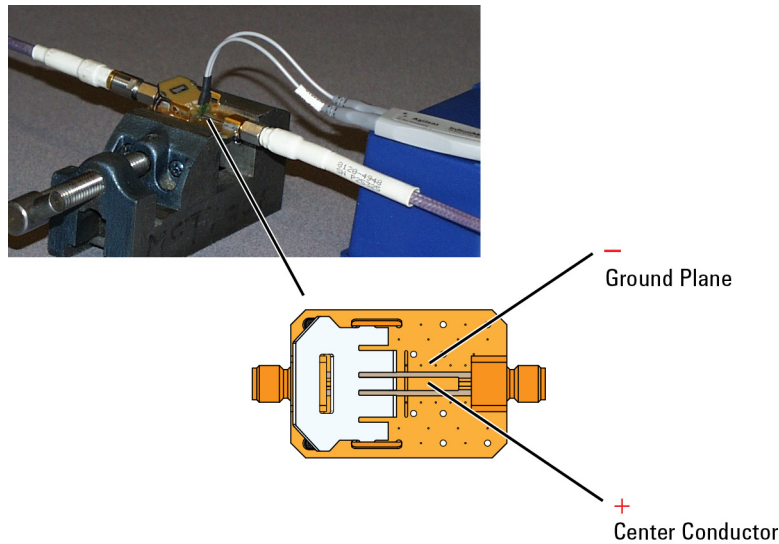

Figure 216 Probing Locations on PV Fixture
- 31 Position the probe conveniently to make quality connections on the PV/DS board as shown in **Figure 216**.